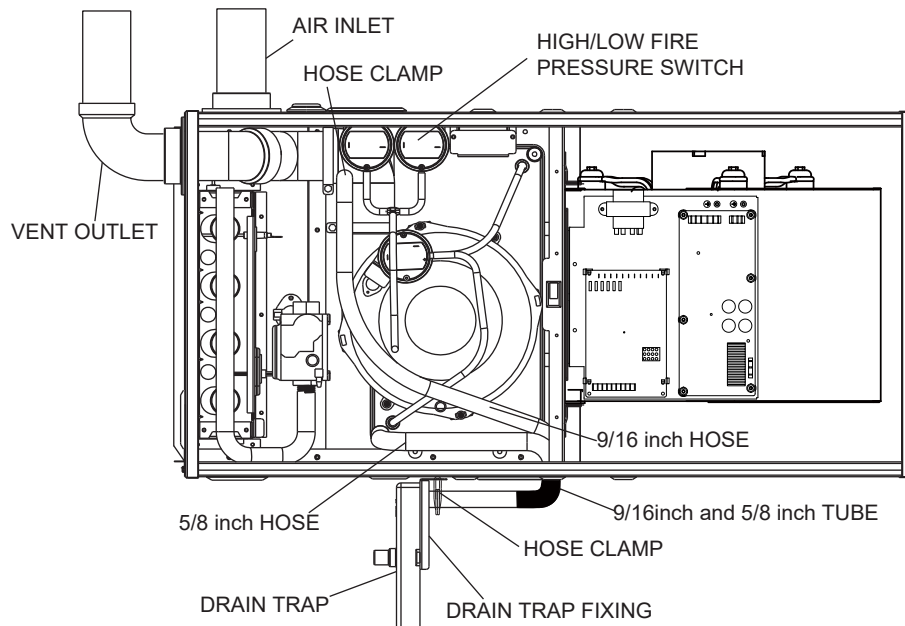
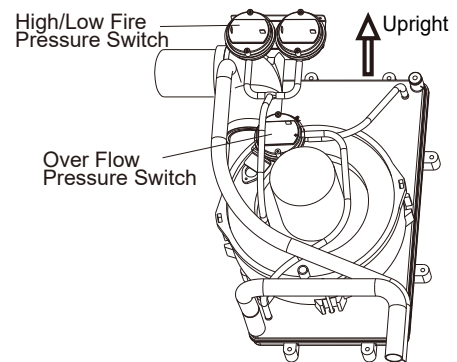

Fig. 6-10 Horizontal Left Side Installation, Vent Through Top Panel
Fig. 6-12 Pressure Switch Position
FOR HORIZONTAL LEFT INSTALLATION (AIR DISCHARGE TO THE LEFT), HOSES OF CONDENSATE OVERFLOW AND THE PRESSURE SWITCH NEED TO BE RELOCATED. (SEE FIGURE 6-10 & 6-11)
2. Air discharge to the left and vent through furnace top panel (see Fig.6-10 and Fig. 6-12)
In this installation, hoses connecting between ports of overflow protection pressure switch (overflow switch) and pressure tabs on the collector box **MUST be switched**. The overflow switch has two ports, which is different from two other regular pressure switches that have only one port. Make sure that black port (positive) is connected to the lower position tap on condensate collector box and gray port (negative) to higher tap of condensate box. Connecting incorrectly will result in failure to protect condensate overflow.(See Fig. 6-12)